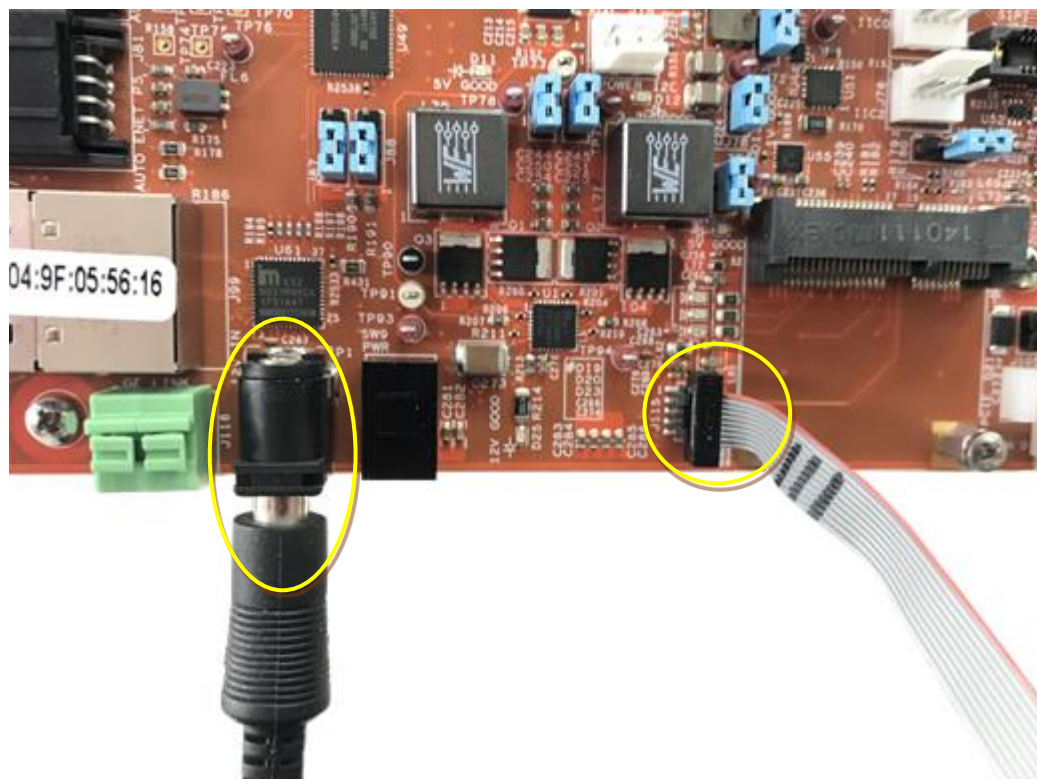

Figure 2 Power and JTAG connections
2. Connect the power cable to the board (Figure 2)
3. (Optional) Connect the Lauterbach debugger to the JTAG Connector (Figure 2)